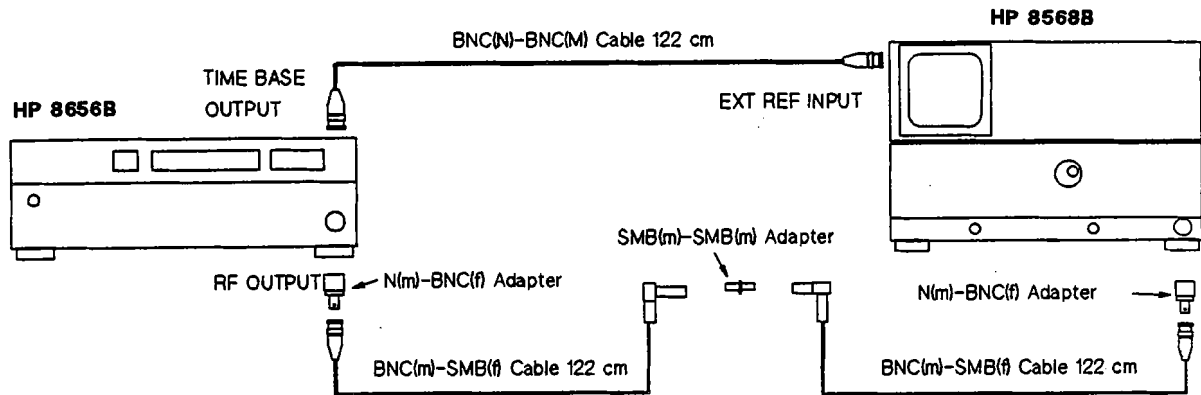

Figure 3-82. Second IF Converter Level Adjustment Setup (1 of 2)
1. Connect the equipment as shown in Figure 3-82.